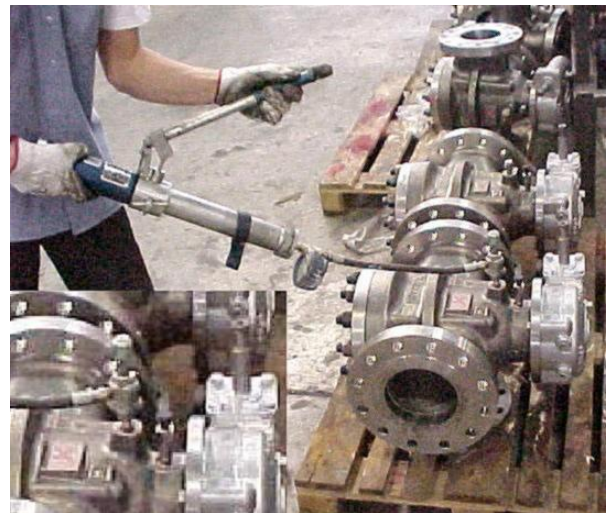

FIG. 5
- c) Connect the pump coupler to the fitting (see Fig.5)